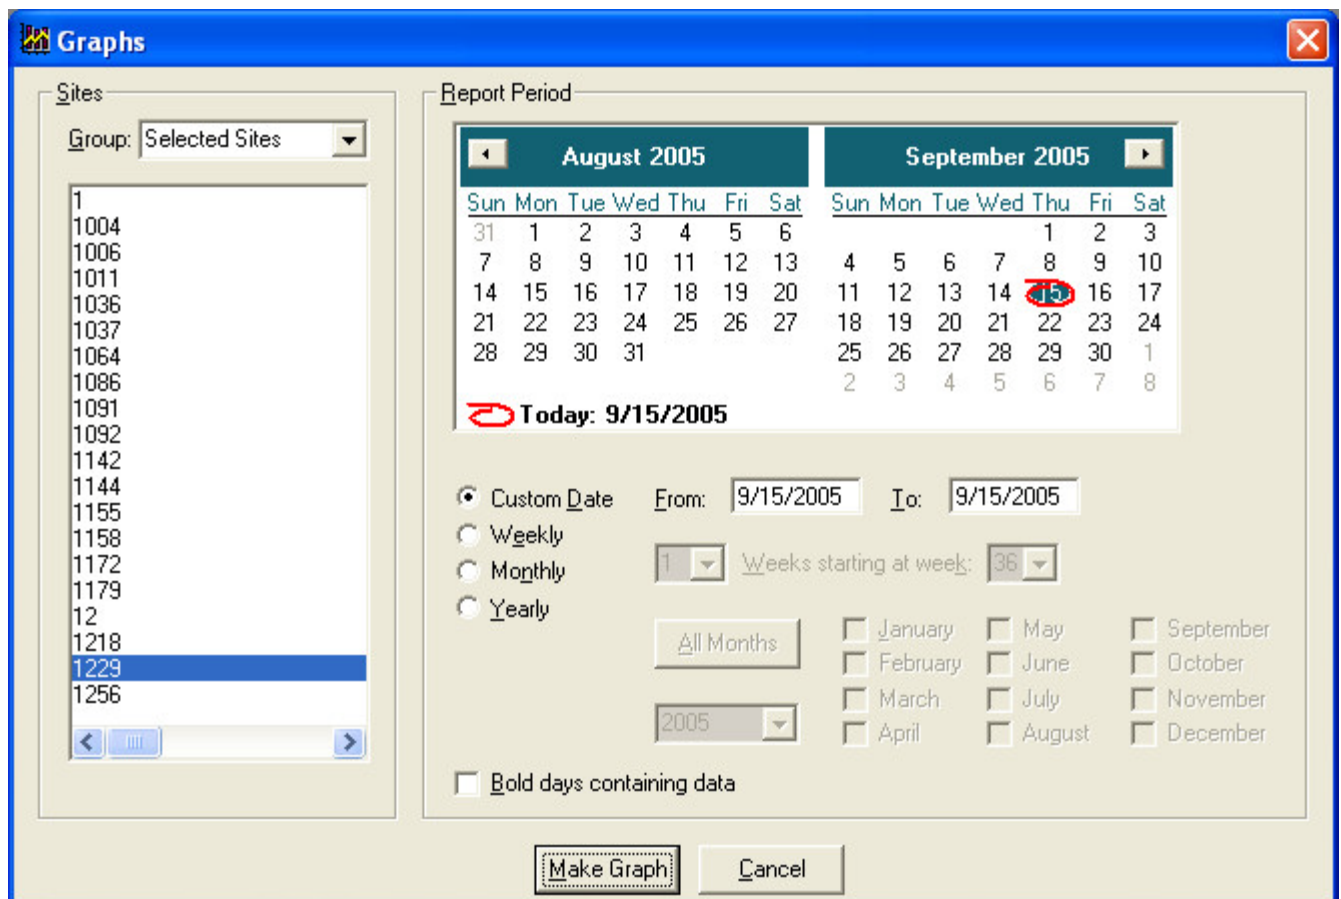

Figure 6: The Graph window
Click on the *Graphs* button on the tool bar or alternatively choose *Graphs* from the *View* drop down menu. This will open the **Graph** window, as shown in Figure 6 below:
- i. For your reference, the current day is shown on the control with a red marker circle and printed in the bottom left-hand corner of the calendar control as shown in Figure 6.